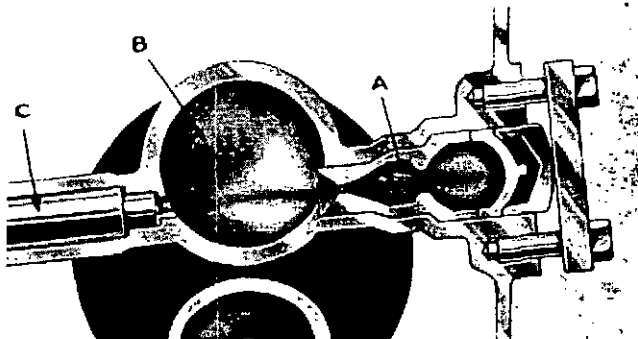

Figure 9—Fuel Injected into Combustion Chamber
3. Near the top of the compression stroke, at a predetermined point, fuel is injected into the combustion chamber under pressure of approximately 1800 pounds per square inch. Fig. 9. This